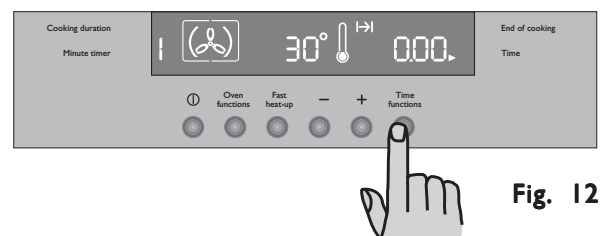

Fig. 12
- 2) Press button Time functions to select the "Cooking Duration" function (Fig. 12). The "Cooking Duration" symbol  will flash and the control panel will display "0.00".